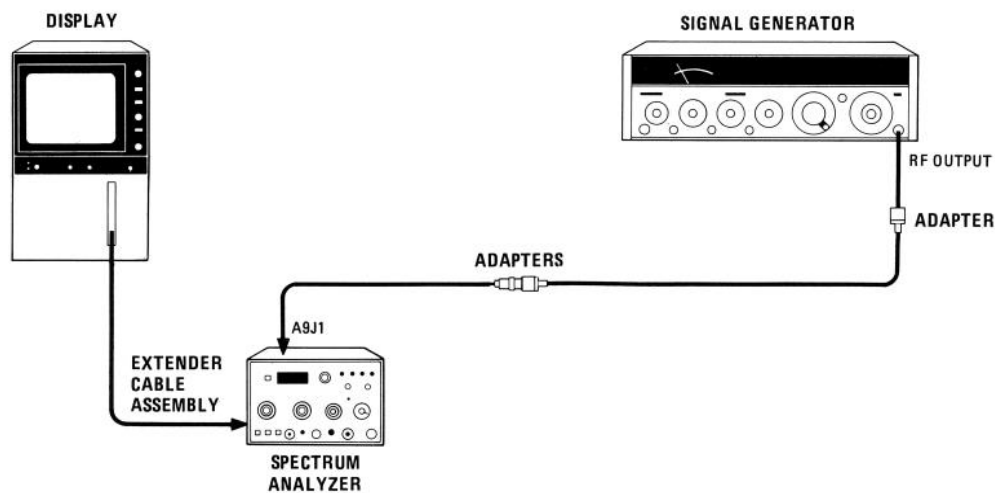

FIGURE 4-10. RESOLUTION BANDWIDTH SELECTIVITY TEST SETUP, 1 kHz TO 30 kHz
2. Connect equipment as shown in Figure 4-10. Remove W7P1 from A10J2. Connect signal generator through adapters to W7P1.